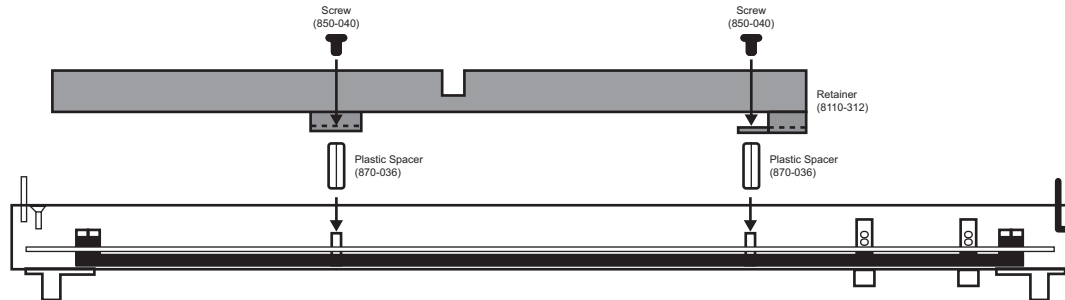

Figure 3.2 CRB-8110A Installation
1. Install two plastic spacers on the threaded studs near bottom of the door. **(Figure 3.2)**
4. Attach the bracket to the plastic spacers with the 850-040 screws. **(Figure 3.2)**